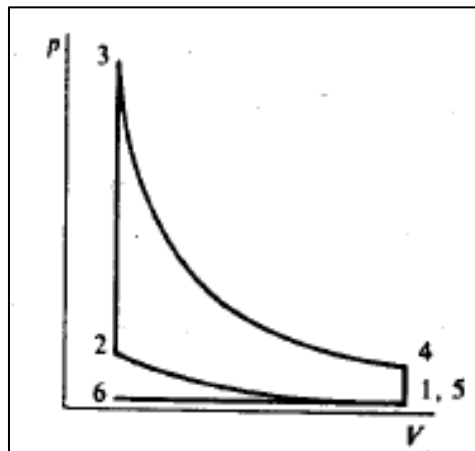

Figure 1[b]
$$\text{CR} = \frac{V_1}{V_2} = \frac{V_4}{V_3} \text{ (in reference to Figure 1[b]) /}$$
- [b] Figure 1[b] shows an idealized Otto cycle for a four stroke engine with a compression ratio, $CR = 10$. Fuel used is C_8H_{18} with lower heating value (Q_{lhv}) of 44.4 MJ/kg. The combustion is stoichiometric. $T_1 = 273.15$ K, $P_1 = 101,325$ Pa. The air density at point 1 is 1.2 kg/m³. $M_{fuel}/M_{total} = 0.06$, $C_v = 946$ J/kg/K, $k = 1.3$
- (i) Name all the processes in Figure 1(b):